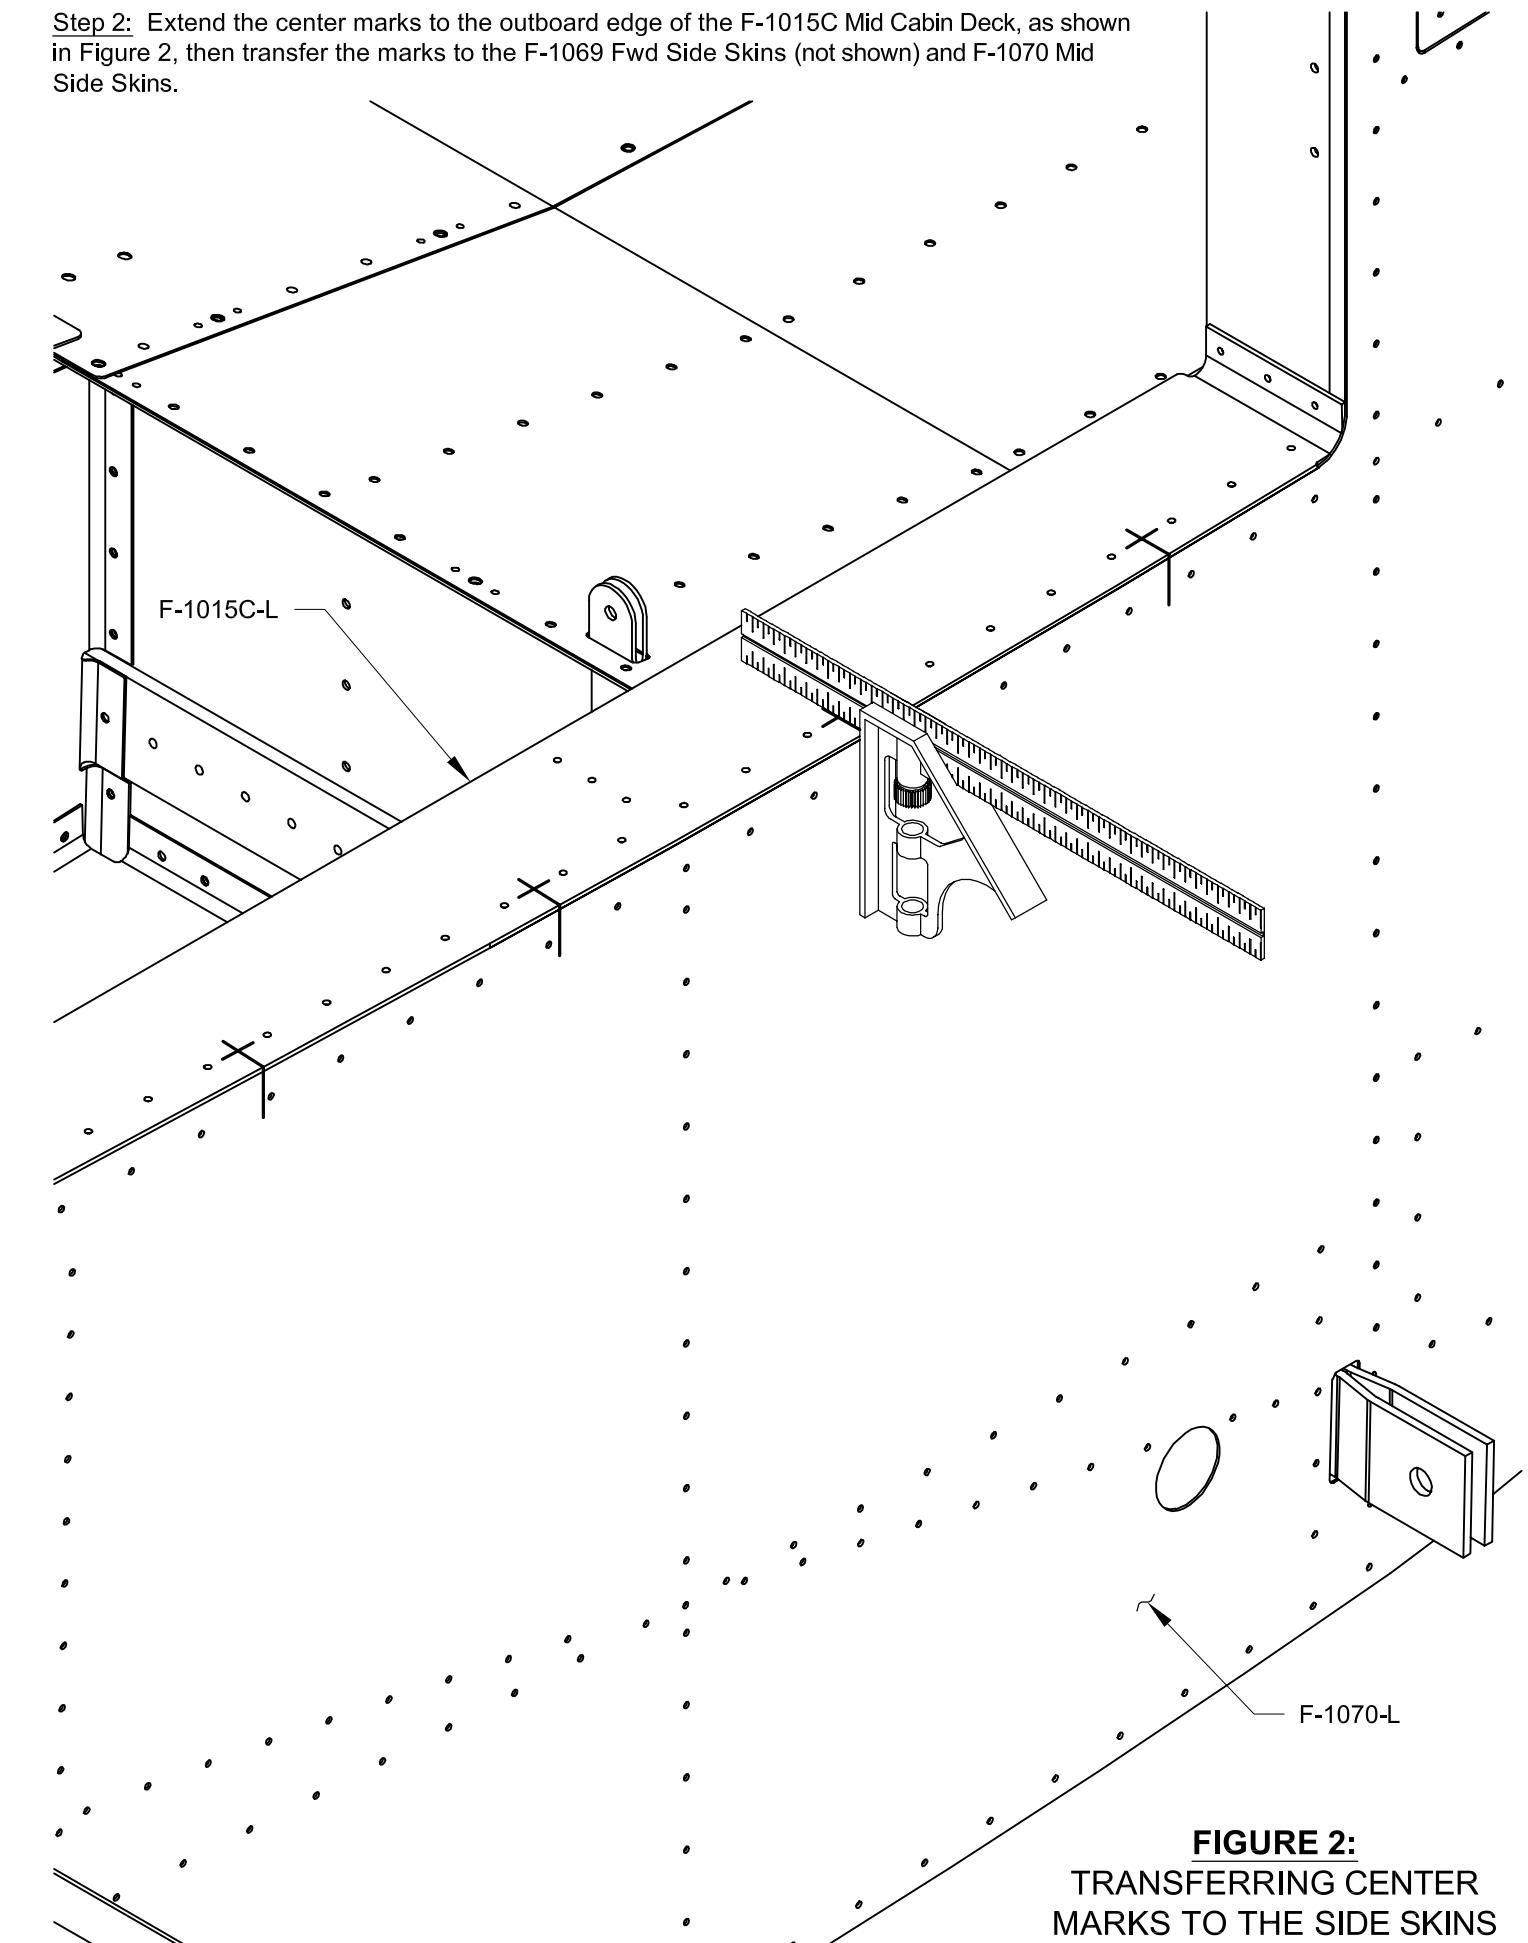

FIGURE 2:
Step 2: Extend the center marks to the outboard edge of the F-1015C Mid Cabin Deck, as shown in Figure 2, then transfer the marks to the F-1069 Fwd Side Skins (not shown) and F-1070 Mid Side Skins.